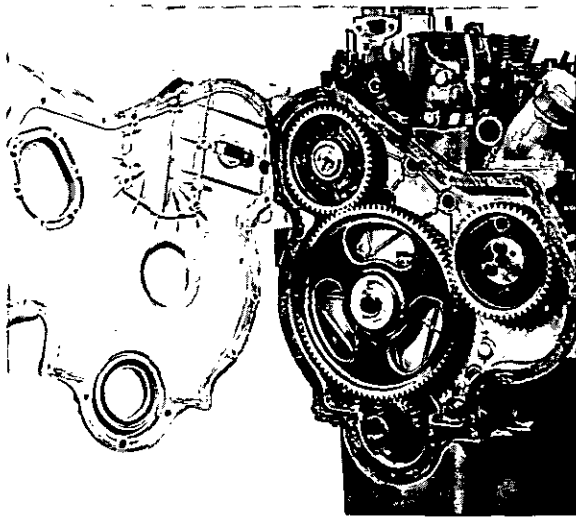

Fig. G.1
7. Remove timing case cover (Fig. G.1) taking care not to damage crankshaft front oil seal which is located in timing case cover.
The camshaft end float is taken up by a steel spring rivetted to the timing case front cover. This can be seen in Fig. G.1.